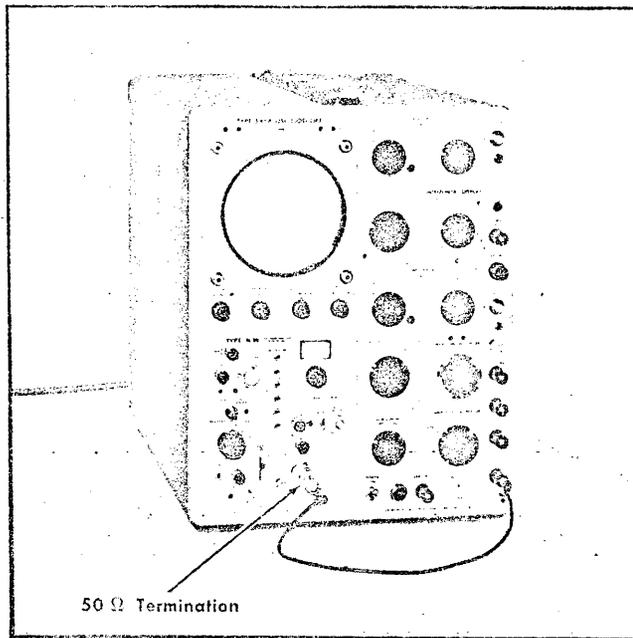

Fig. 6-29. Equipment setup to check internal spurious signal response (step 19).
- a. Equipment setup is shown in Fig. 6-29.